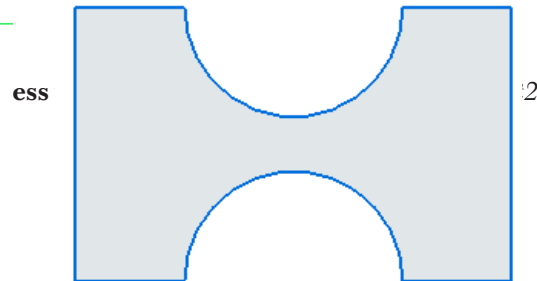

Figure 2-53 Final profile for Tutorial 2
19. Click to define the endpoint of this line when the endpoint relationship handle is displayed. The final profile of the model is shown in Figure 2-53.